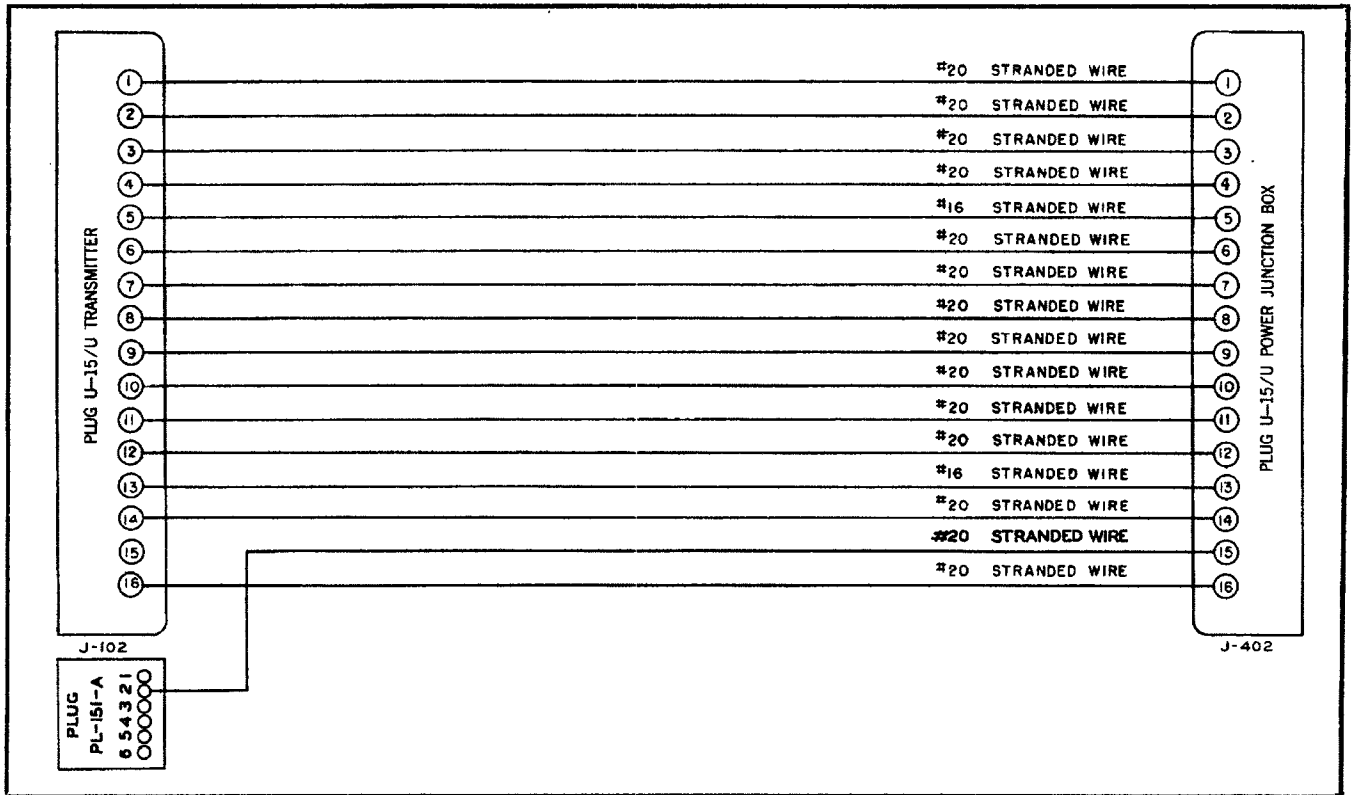

Figure 7. Transmitter-to-Power Junction Box—Low Impedance Systems
c. BENCH TEST.—Before installing the equipment in the plane, assemble all the units on the bench and interconnect as described in paragraph 1g, in this section. Connect the equipment to a 28-volt power source. Use cords which have been made up according to instructions given in paragraph 1f, (Figs. 7, 9, 12 and 14) in this section, and cords provided with Radio Test Set AN/ARN-1.
(1) RADIO TRANSMITTER T-67/ARC-3.
(a) FOR LOW IMPEDANCE SYSTEMS.—Connect each of the pins in one plug with the pin of a similar number in the other plug, except that no connection should be made to pin 15 in either plug. Use No. 20 gauge stranded wire on all connections except pins 5 and 13 which require No. 16 gauge wire. (See fig. 7.) For single-place aircraft where more audio power is required, a single low impedance headset may be used on the high impedance tap.
- (1) Check the antenna connections.
- (2) Check all soldered connections in plugs for weak joints. Using the cabling diagrams (See figs. 7 through 15), check to see that wiring sequence is correct.
- (3) Be sure that the cable ends with the identifying marks are plugged into the power junction box.